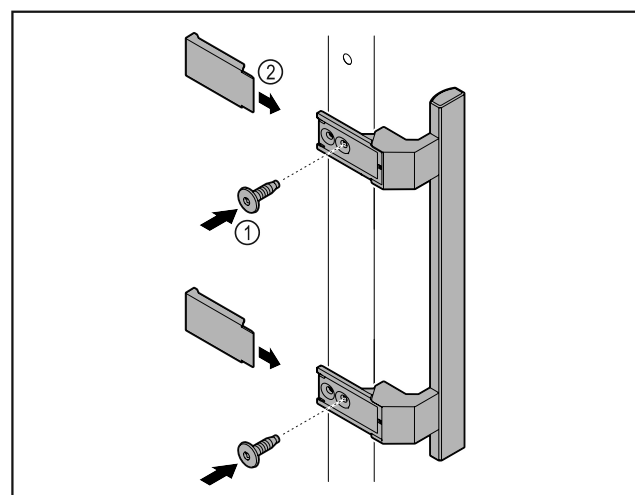

Fig. 6
- ▶ Attach handle from accessory kit to the door using the screws Fig. 6 (1) supplied.
- ▶ Put on covers Fig. 6 (2).